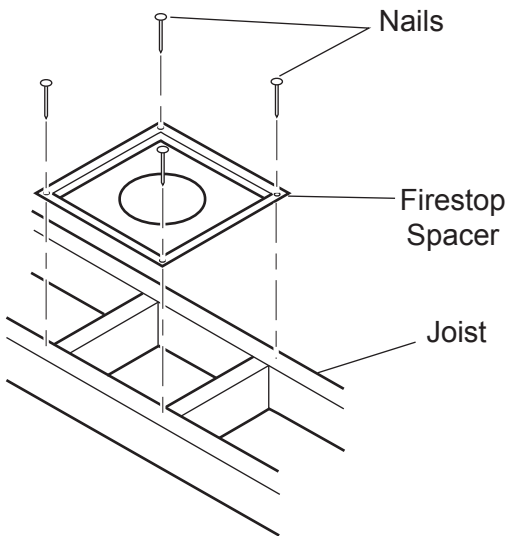

Figure 9 - Installing Firestop In Attic
To position firestop see *Figures 9 and 10*. Only one (1) firestop required per frame.